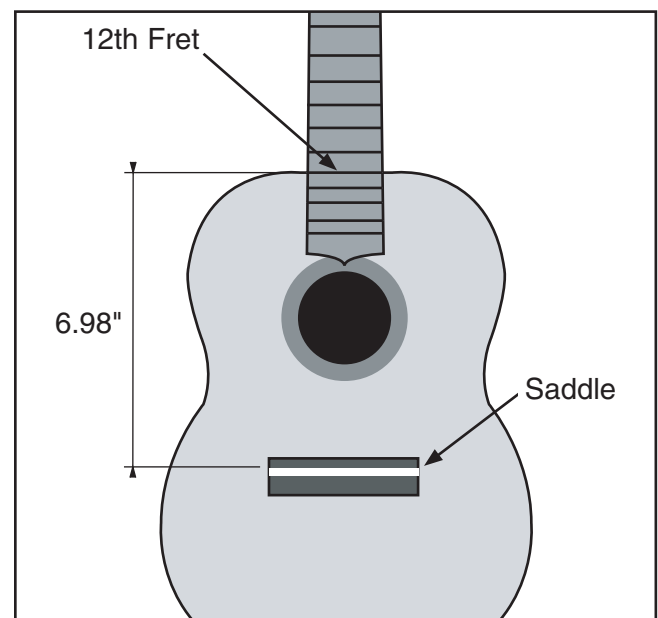

Figure 27. Bridge positioning.
1. Insert the saddle into the bridge and position the front edge of the saddle 6.98" away from the center of the 12th fret (**Figure 27**).